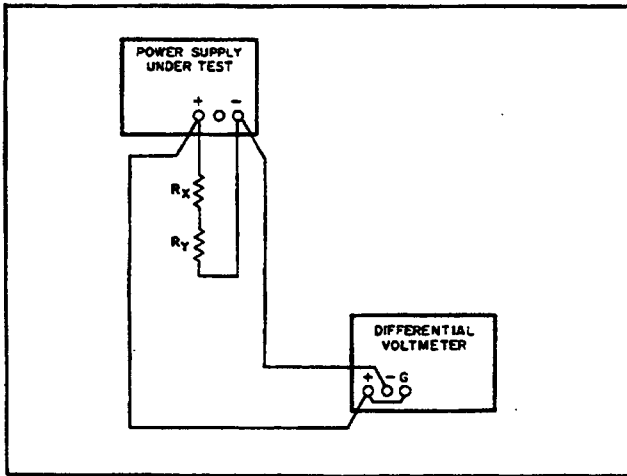

Figure 5-5. Load Regulation, Test Setup
- a. Connect test setup as shown in Figure 5-5.
- b. Connect test setup shown in Figure 5-5.
- a. Connect test setup shown in Figure 5-5.